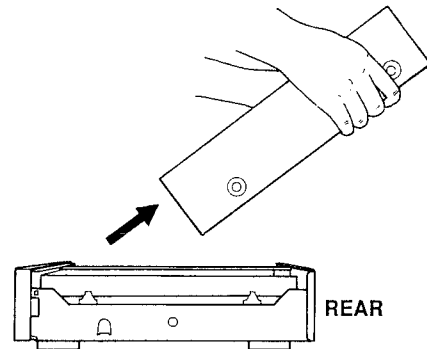

Fig. 4
- d. Pull off the Top Cover diagonally as shown in Fig. 4.